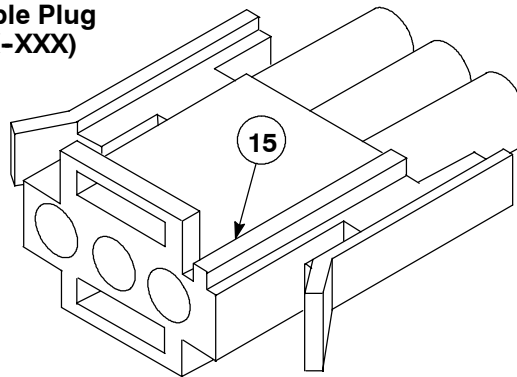

Figure 4-16. Rewiring Power Cable Plug
7. Using the key as a guide insert the three wires from the power cord into the plug. The **green wire** goes into the receptacle below the key. The **brown wire** goes into the center receptacle and the **blue wire** goes into the remaining receptacle. See Figure 4-16.